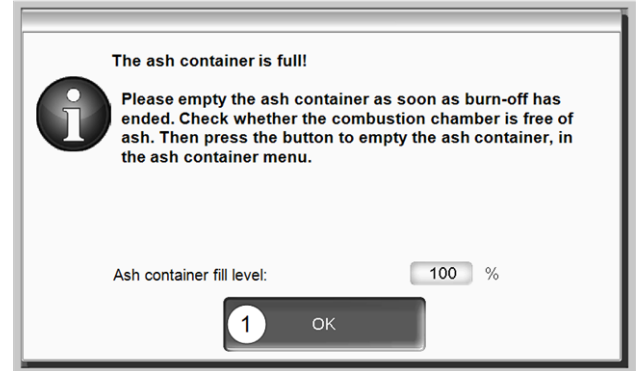

Fig. 2-52
- ▶ Confirm the information message on the display with OK 1 > Fig. 2-52